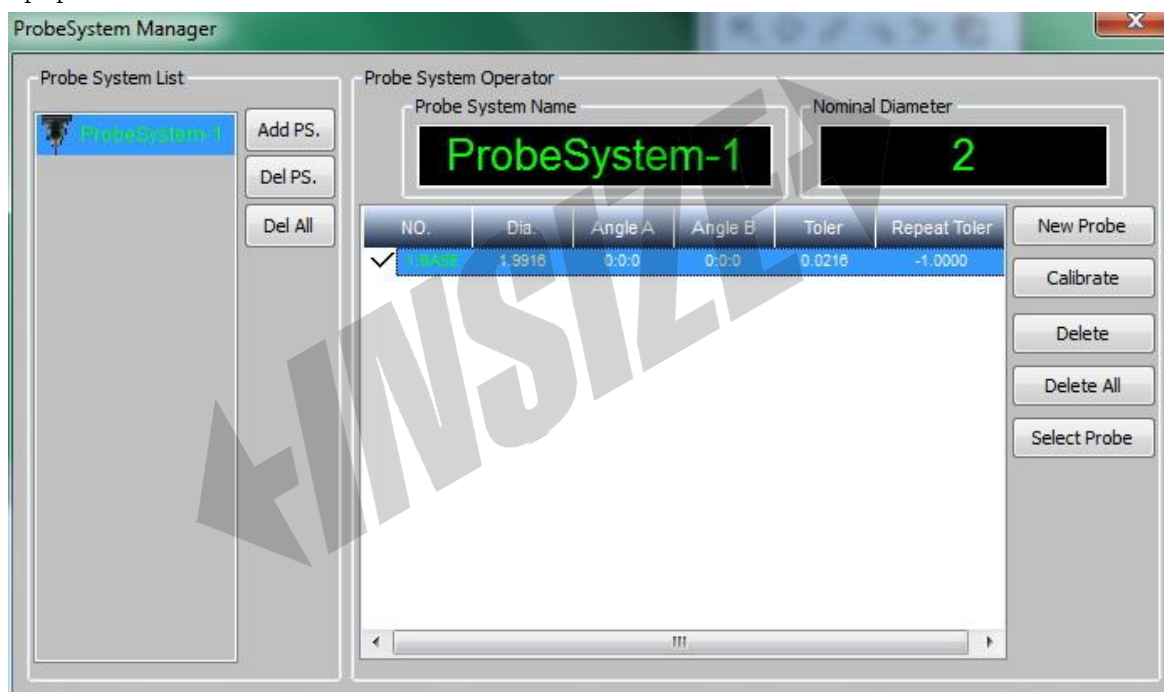

Fig. 11-2
The probe system used in current system includes adding a specific probe system, cancelling a specific probe system and all probe systems shown as Fig. 11-2:
- (1) Select a probe in a specific probe system (The premise is that the standard probe A0C0 has been calibrated ,if not,calibrate the standard probe first)
- (2) Select “calibration” order in Fig.11-2, and below window will popup: